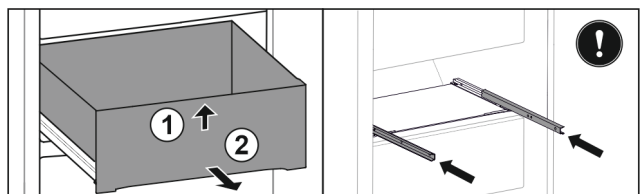

Fig. 51
- ▶ Lift up drawer at the front. Fig. 51 (1)
- ▶ Remove drawer to the front. Fig. 51 (2)